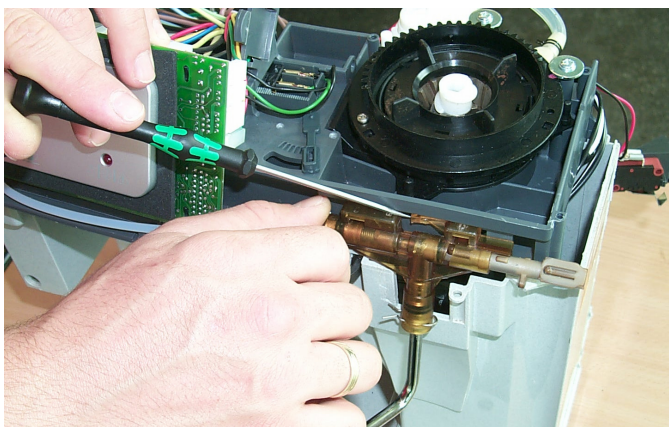

Fig. 15
- b) Using a small screwdriver, remove the HWD system and push out of its fitting towards the right (see Fig. 15).